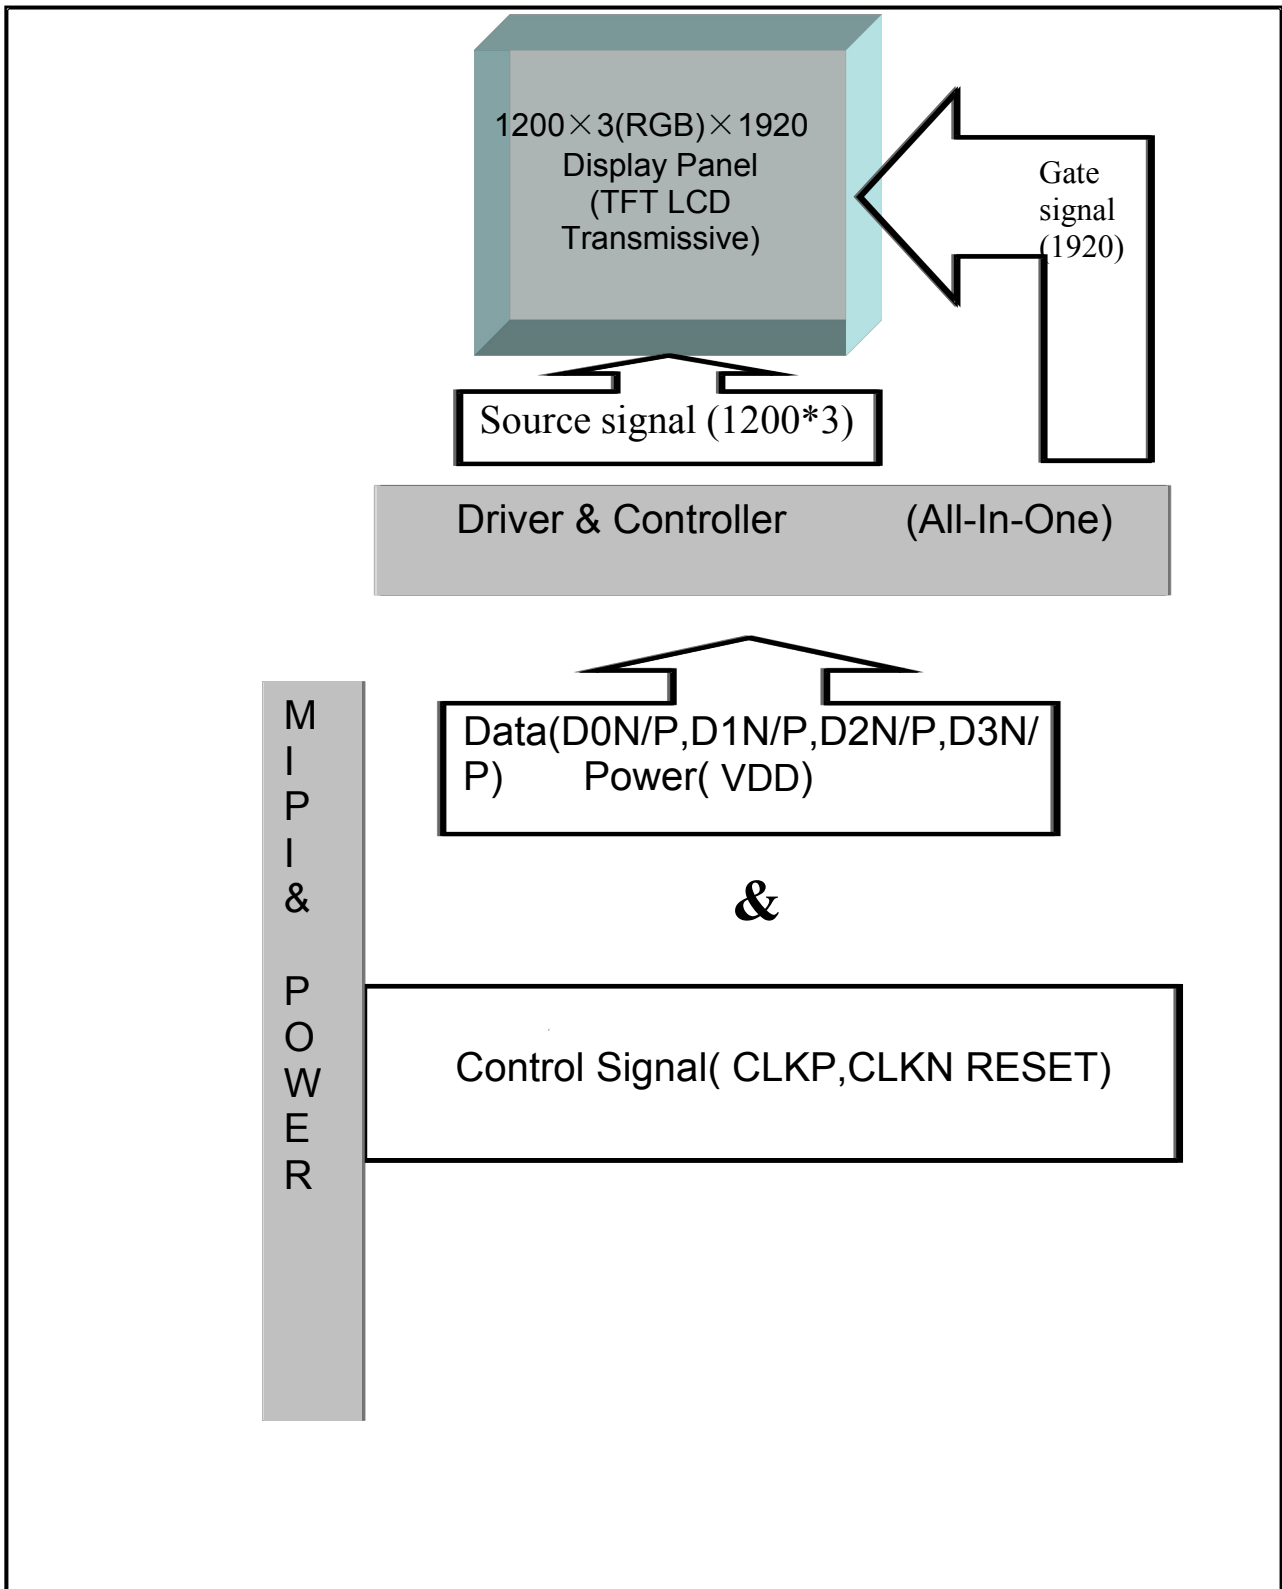

## FIG. 3 The definition of Viewing Angle
4. Viewing angle is the angle at which the contrast ratio is greater than 10. The angles are determined for the horizontal or x axis and the vertical or y axis with respect to the z axis which is normal to the LCD surface. For more information see FIG 3.